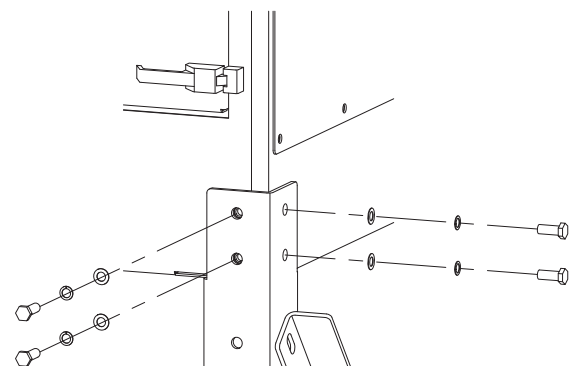

FIGURE 4
3. Bolt on each of the legs with the hardware provided (Figure 4).